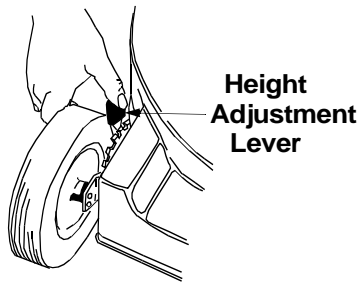

Figure 14
- Simply depress the lever towards wheel and move wheel and lever assembly to desired position. All wheels must be placed in the same relative position. See Figure 14.